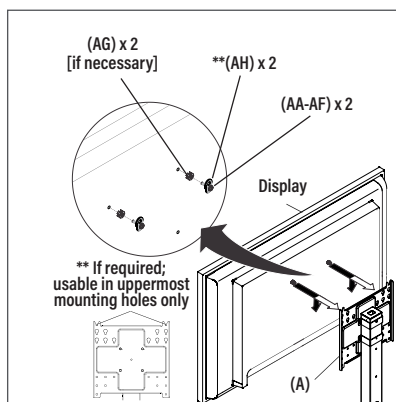

Figure 9
(1) Select correct screws, nesting spacers (if necessary), and universal washers (if required) from the hardware bag (AA-AH) and attach display to two upper mounting slots in face plate assembly (A). (See Figure 9)